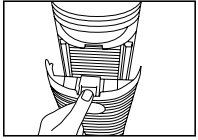

Fig. 5
1. Open the rear grill cover by gently pushing down on the tab on the top of the grill cover. Fig. 5